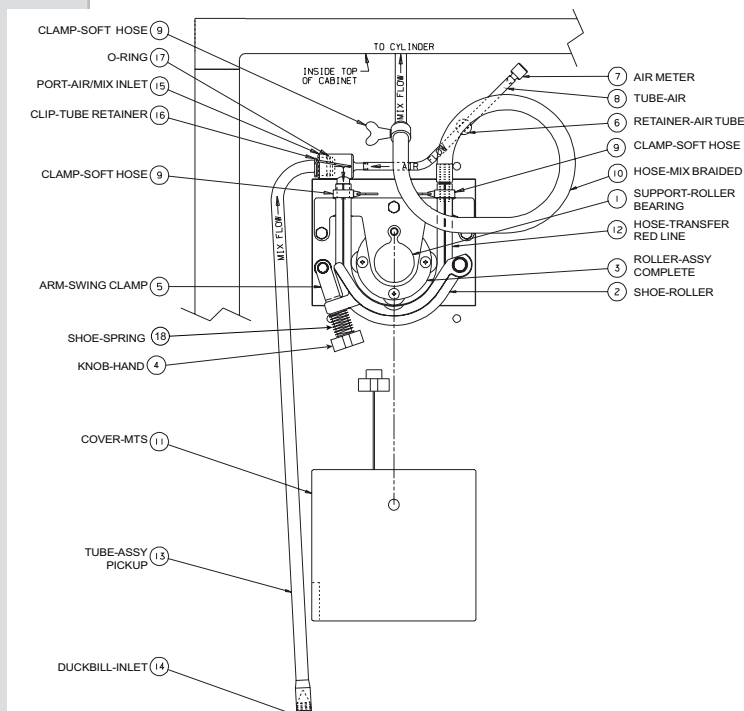

Figure 9-1
3. In the cabinet below (see figure 9-1). Disconnect the mix probe cords from the back of the cabinet.